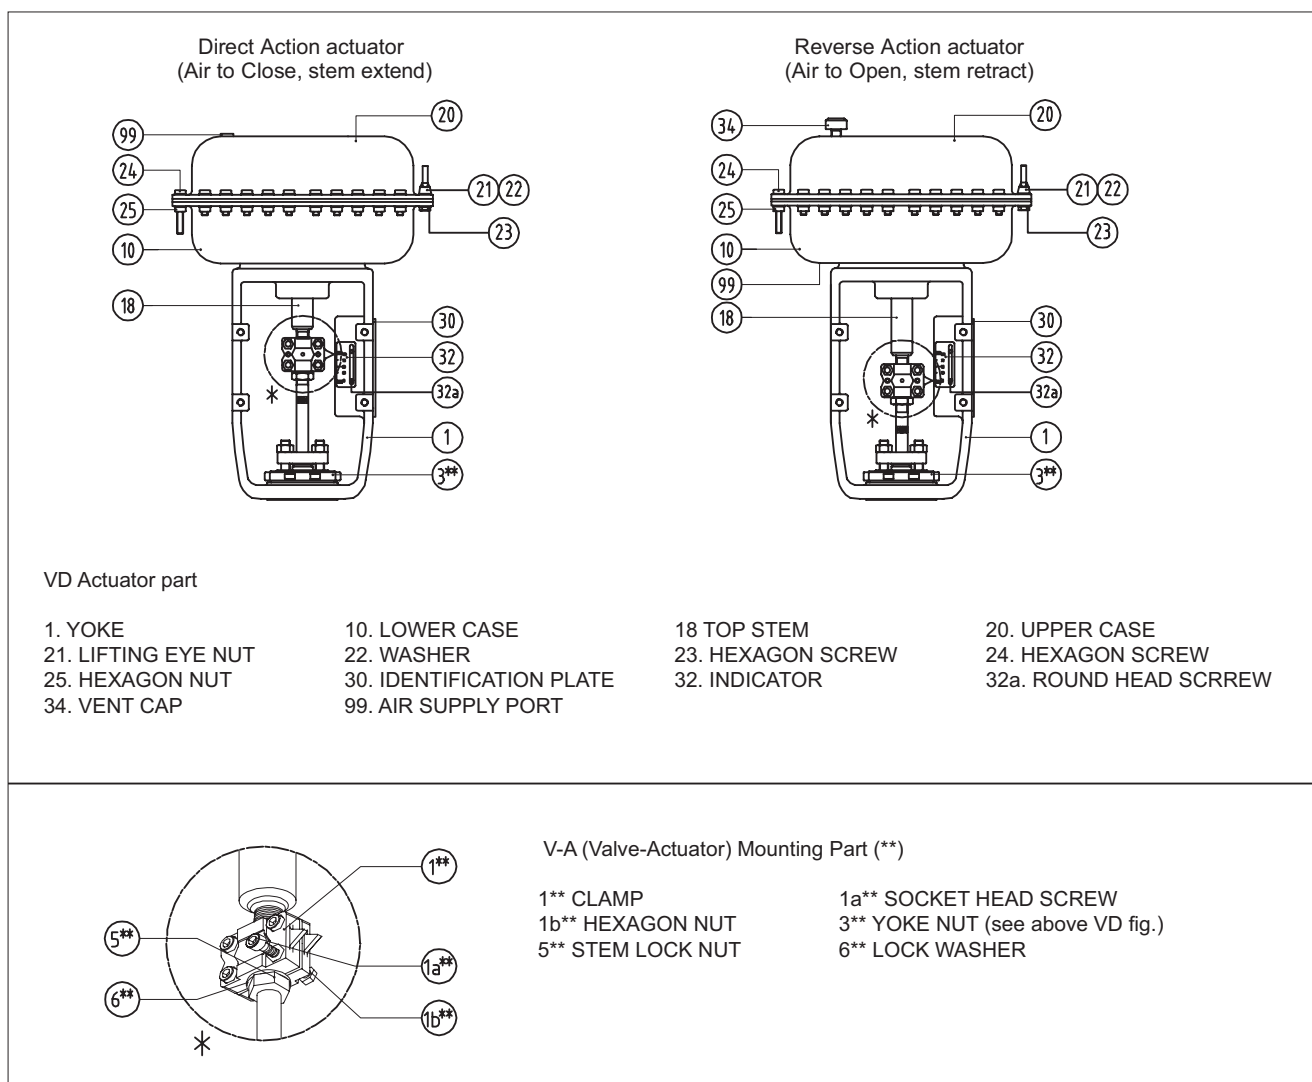
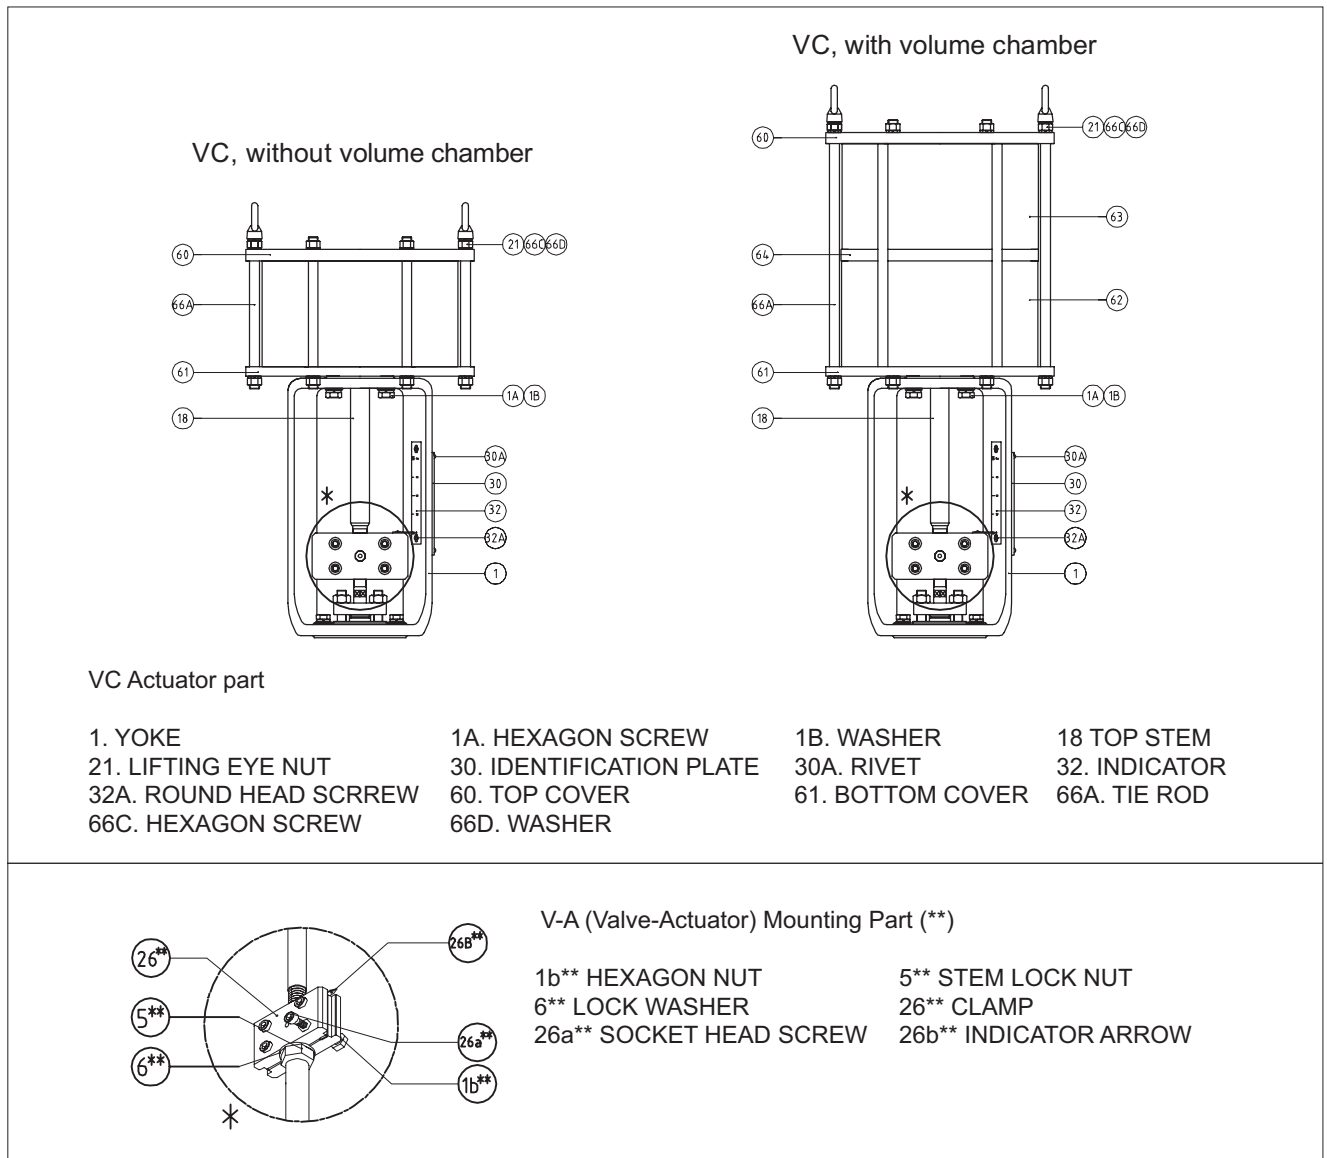

Fig. 12 VD Actuator
Fig. 13 VC Actuator
A. Actuator removal for VD Reverse<air to open, stem retract> actuator (Fig. 12)
B. Actuator replacement (mounting) for VD Reverse<air to open, stem retract> actuator (Fig. 12)
- Lift the top stem (18), using by specified air pressure.
C. Actuator removal for VD Direct<air to close, stem extend> actuator (Fig. 12)
D. Actuator replacement (mounting) for VD Direct<air to close, stem extend> actuator (Fig. 12)
- Down the top stem (18), using by specified air pressure.
E. Actuator removal for VC actuator (Fig. 13)
- Loosen the plug stem locknut and the 4 socket head screws (26a) on the clamp (26).
- Remove the clamp (26).
F. Actuator replacement (mounting) for VC actuator (Fig. 13)
- Down the top stem (18), by using specified air pressure.
- Adjust stem length after clamping the clamp (26) according to rated travel (stroke) as 'open' and 'close' position as per pressurizing and depressurizing the both side of cylinder chambers.
- Tighten the 4 socket head screws (26a) on the clamp (26) and the lower stem locknut.